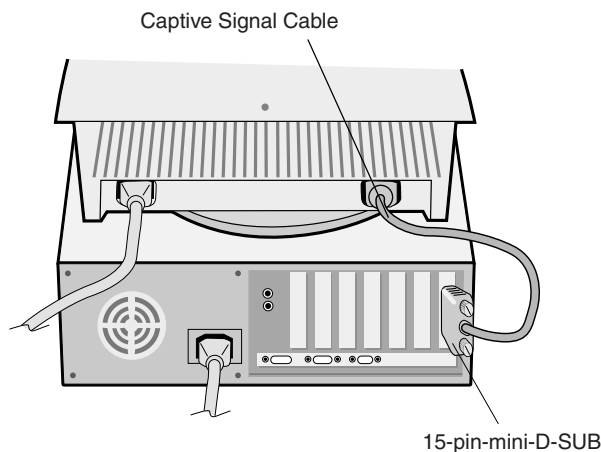

Figure A.1
3. **For the PC:** Connect the 15-pin mini D-SUB of the captive signal cable to the connector of the display card in your system (**Figure A.1**) Tighten all screws.